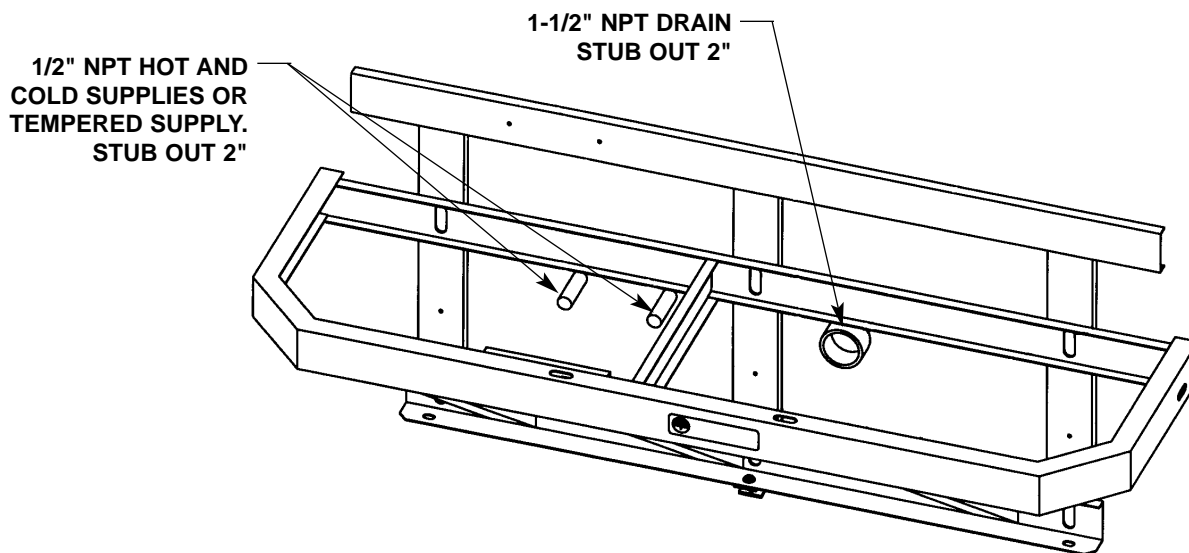

Figure 2
*NOTE: See Figure 1 (below), 1a, 1b (for TAS on page 6) and Figure 2 (on page 7) when roughing in the MG-2/BIR3 Express®.*